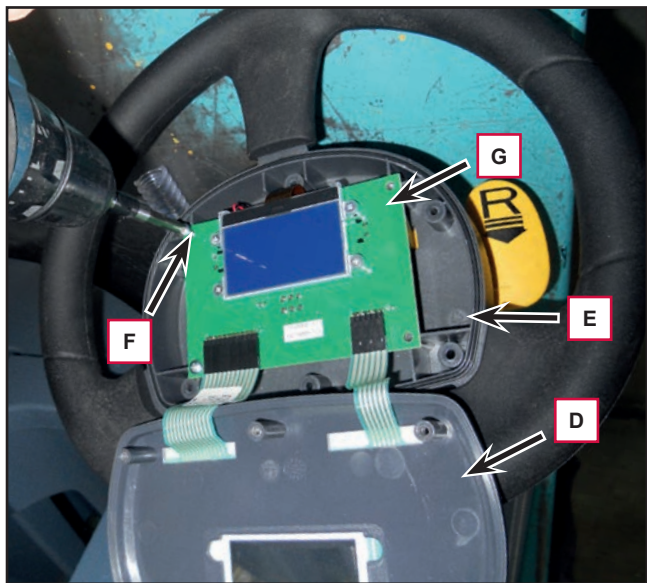
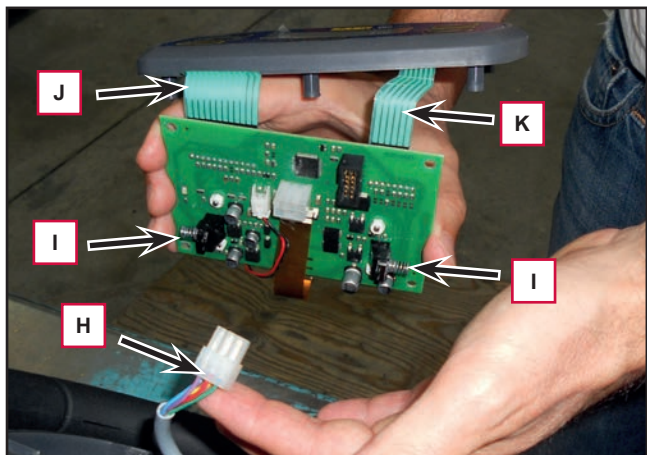

Figure 17
Figure 18
6. Lift the cover of the dashboard instrument board (D, Figure 17) and recover the gasket (E).
7. Remove the screws (F) and remove the display electronic board (G).
8. Disconnect the connection (H, Figure 18).
9. Recover the springs (I) of the microswitches.
10. Disconnect the flat connections (J) and (K) from the display electronic board (EB2).